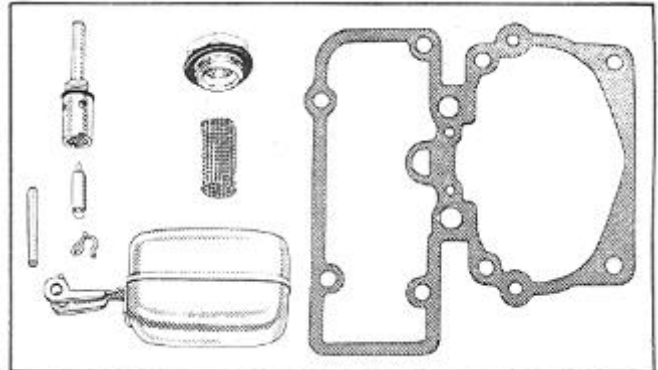

FIGURE 60
1. Group all parts controlling gasoline level, Figure 60.